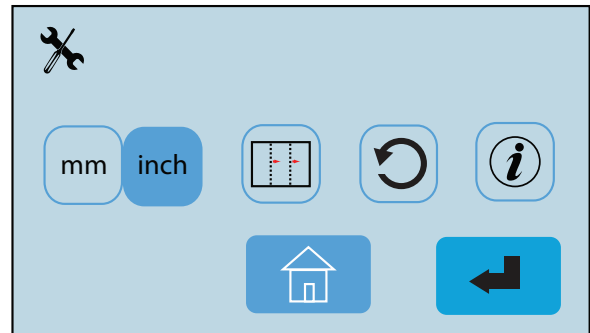

Fig. 23
1. From the Operator Settings screen (Fig. 23) press the measurement setting icon  (Fig. 24) to change between settings. The icon highlighted in blue is the selected setting. By changing this setting the paper sizes will change from standard to metric or vice versa.